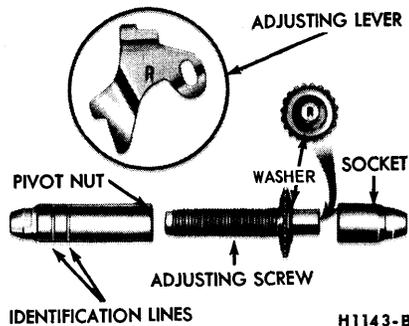

FIG. 18—Adjusting Screw and Lever Identification
justing screw assemblies from one side of the vehicle to the other would cause the brake shoes to retract rather than expand each time the automatic adjusting mechanism operated. To prevent installation on the wrong side of the vehicle, the socket end of the adjusting screw is stamped with an R or L (Fig. 18). The adjusting pivot nuts can be distinguished by the number of grooves machined around the body of the nut. Two grooves on the nut indicate a right thread; one groove indicates a left thread.
11. Hook the cable hook into the hole in the adjusting lever. The adjusting levers are stamped with an R or L to indicate their installation on a right or left brake assembly (Fig. 18).